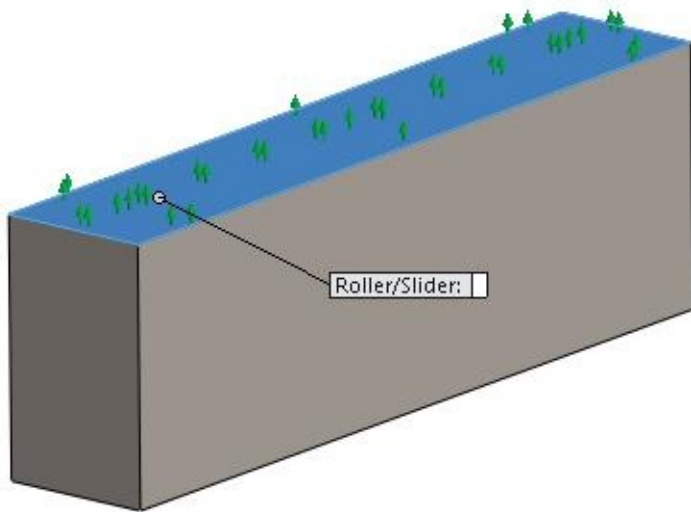

Figure-19. Slider face selection
- Select the face that you want to allow for sliding or rolling. Refer to Figure-19.